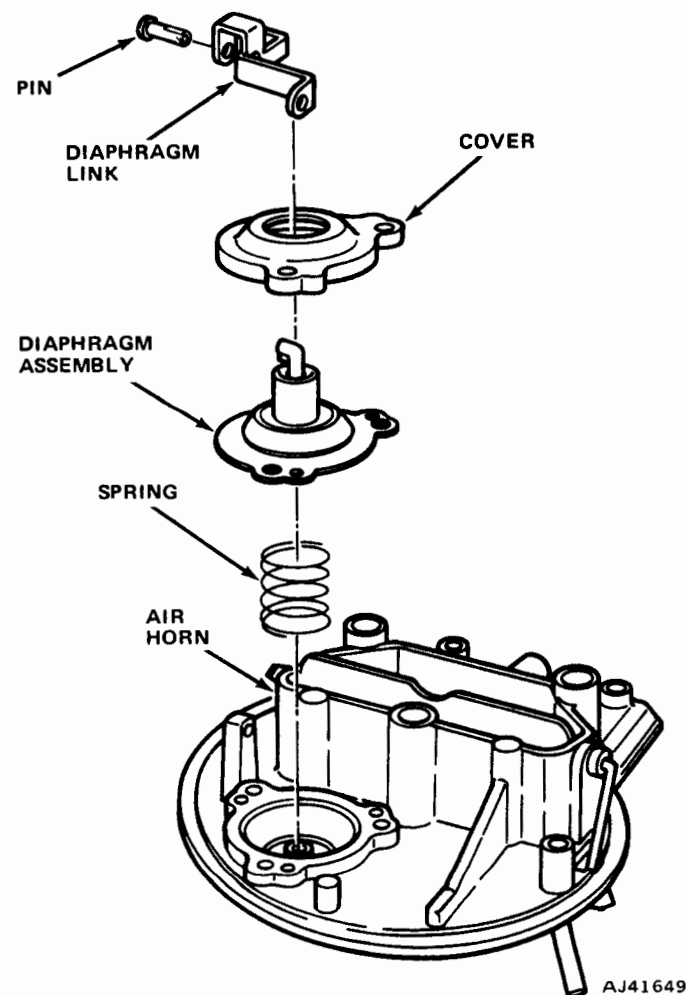

Fig. 4-43 Choke Modulator Assembly
(2) Remove automatic choke rod retainer from thermostatic choke shaft lever.
(3) Remove air horn attaching screws, lock-washers, and carburetor identification tag. Remove air horn and air horn gasket.
(4) Remove choke rod by loosening screw that secures choke shaft lever to choke shaft. Remove rod from air horn. Slide plastic dust seal out of air horn.
(5) Remove choke modulator assembly (fig. 4-43).